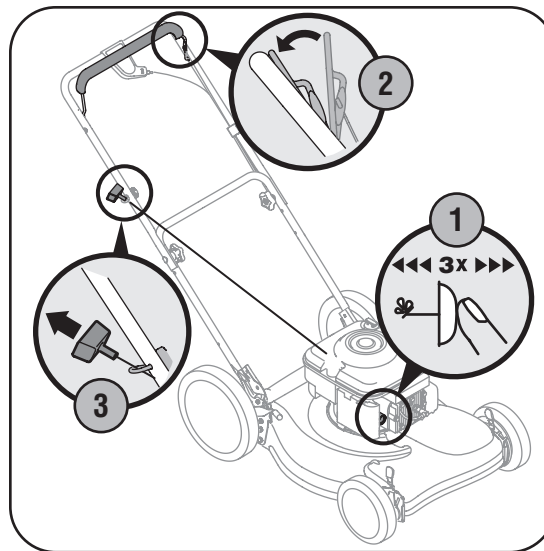

Figure 4-3
1. If equipped, push primer three times. Wait about two seconds between each push. See Figure 4-3. In temperature around 55° F or below, prime five times. Do not prime to restart a warm engine.
2. Standing behind the mower, squeeze the blade control against upper handle as shown in Figure 4-3.